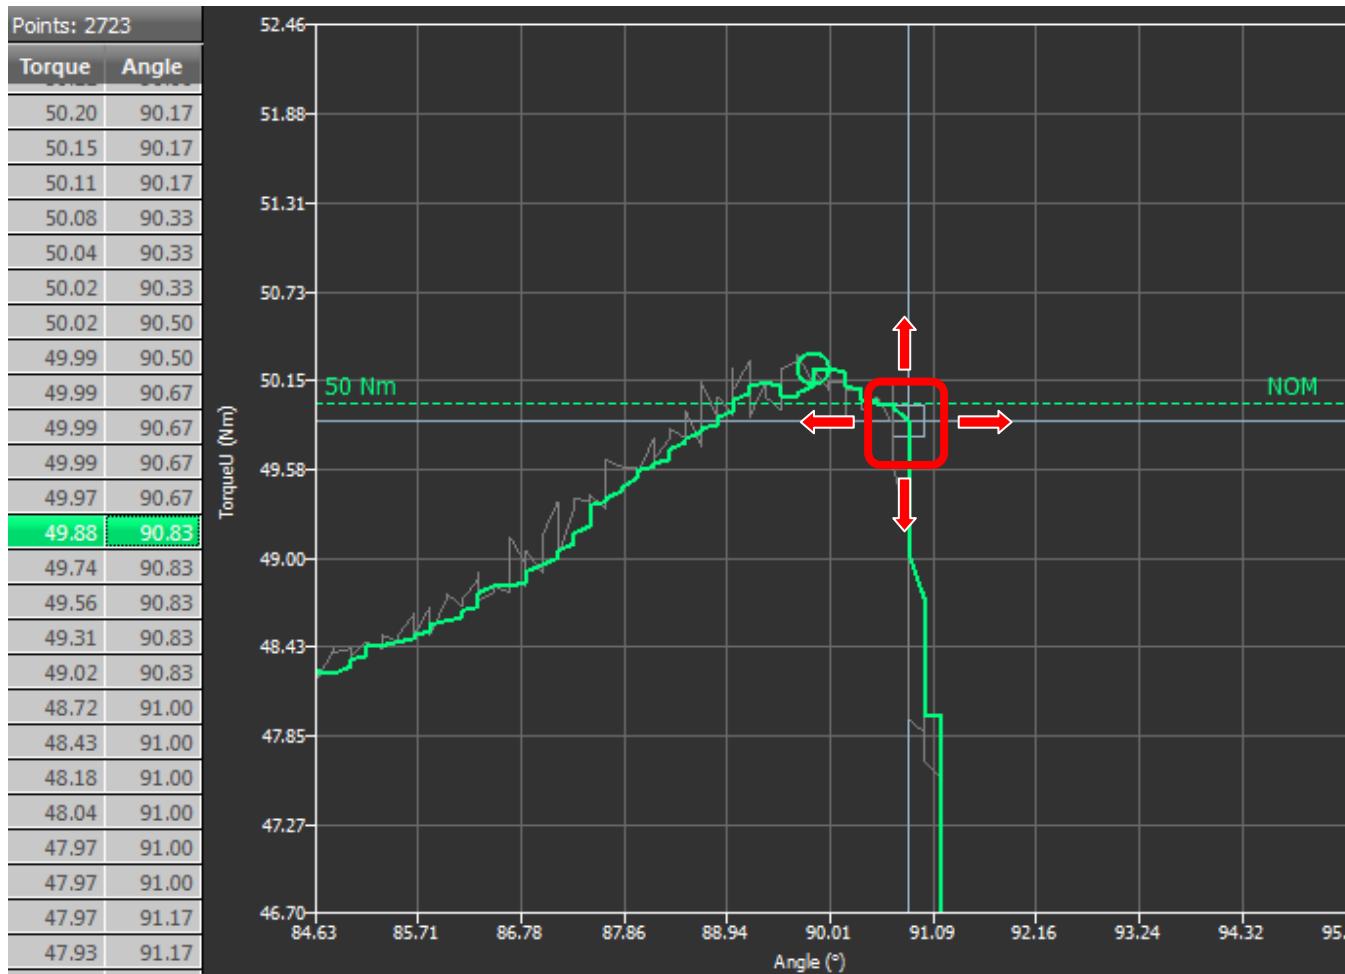

Figure 21
- now is easier to select by the finger touch a point in the trace chart and to highlight it in the corresponding data table. In fact the software tries to find a point of the trace near the point that the user has selected in the screen (See **Figure 21**).